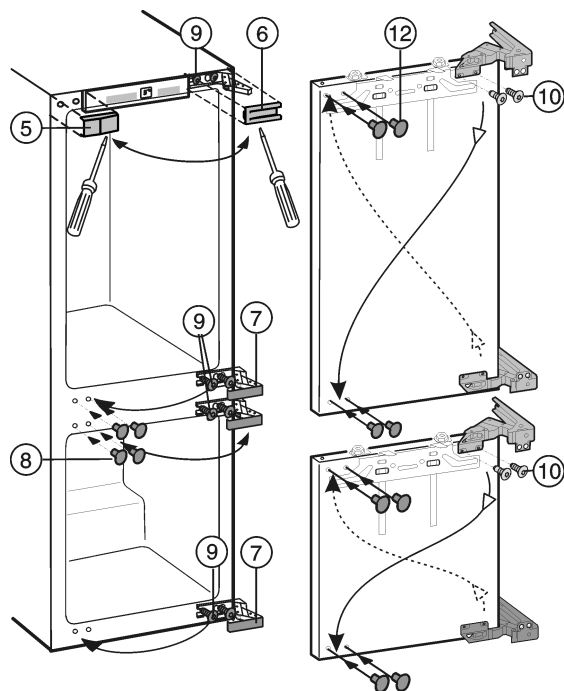

Fig. 3
- ▶ Lift off the covers Fig. 3 (5,6,7,8) forwards using a flat-blade screwdriver.
- ▶ Loosen the top and bottom screws Fig. 3 (9) on the appliance body, without removing them.
- ▶ Transfer the screws Fig. 3 (9) to the opposite side and screw them in a little.
- ▶ Undo the screws Fig. 3 (10) and change over the hinges diagonally.
The screws Fig. 3 (10) are self-tapping: use a cordless screwdriver.
- ▶ Place plugs Fig. 3 (12) in the now unused fastening holes.
- ▶ Attach the doors to the pre-fitted screws Fig. 3 (9) and tighten the screws **firmly with 4 Nm**.